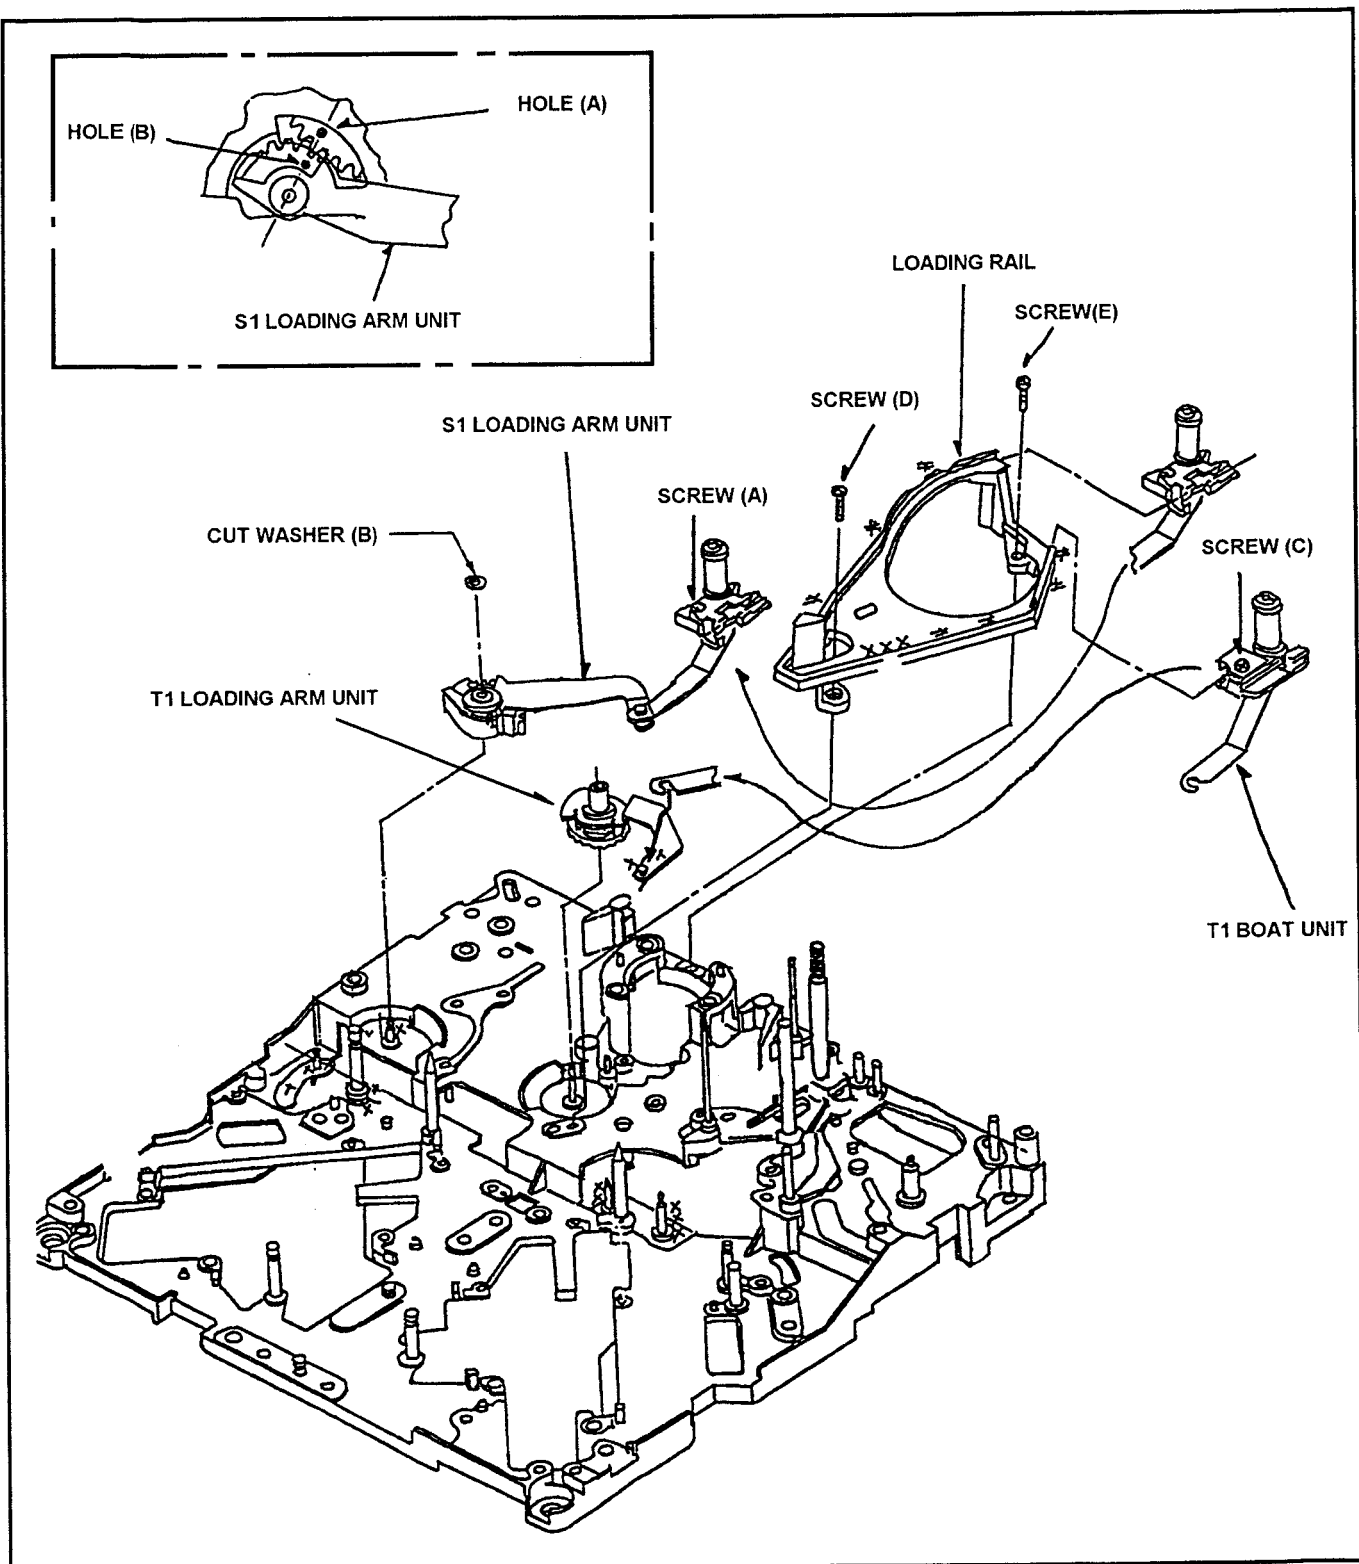

Fig. 6-13-1 Removal of S1 Post Loading Arm Unit
3. Remove the S5 Post Base Unit (Refer to item 6-17).
4. Remove the Tension Arm Unit (Refer to item 6-18).
5. Unscrew the screw (A) and remove the S1 Post from Loading Rail as shown in Figure 6-13-1.
6. Remove the Cut Washer (B) and remove the S1 Loading Arm Unit as shown in Figure 6-13-1.
1. When install the S1 Post Loading Arm Unit, then the hole (A) should be matched hole (B) as shown in Figure 6-13-1.
3. Unscrew the screw (C) and remove the T1 Post from Loading Rail as shown in Figure 6-13-1.
4. Hang off the T1 Boat Unit from T1 Loading Arm Unit as shown in Figure 6-13-1.
3. Remove the Cylinder Unit. (Refer to item 6-1).
4. Move the T1 Post to loading direction by manual ejecting method until the screw (D) can be removal position as shown in Figure 6-13-1.
5. Unscrew the 2 screws (A) and (C), then remove the S1 and T1 Post from Loading Rail as shown in Figure 6-13-1.
6. Unscrew the 2 screws (D) and (E), then remove the Loading Rail as shown in Figure 6-13-1.
7. Remove the T1 Loading Arm Unit as shown in Figure 6-13-1.